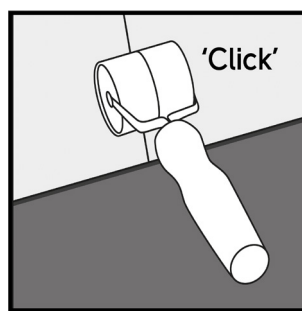

FIG 4
5. Continue to install planks across the room until the row is complete using a hand roller to assist (Fig. 4). Only if necessary, use a rubber mallet and an offcut of the product to gently tap the product. A pull bar can be used to pull the product together around the edges of the room (Fig. 5).